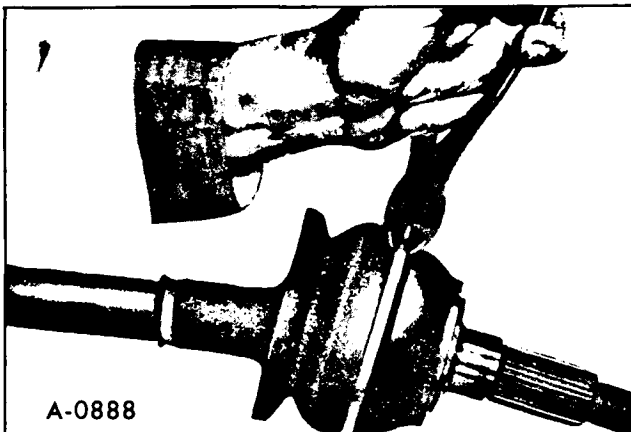

Figure 7—Cutting Seal Clamp
3. Remove inner and outer seal clamps. (figure 7)